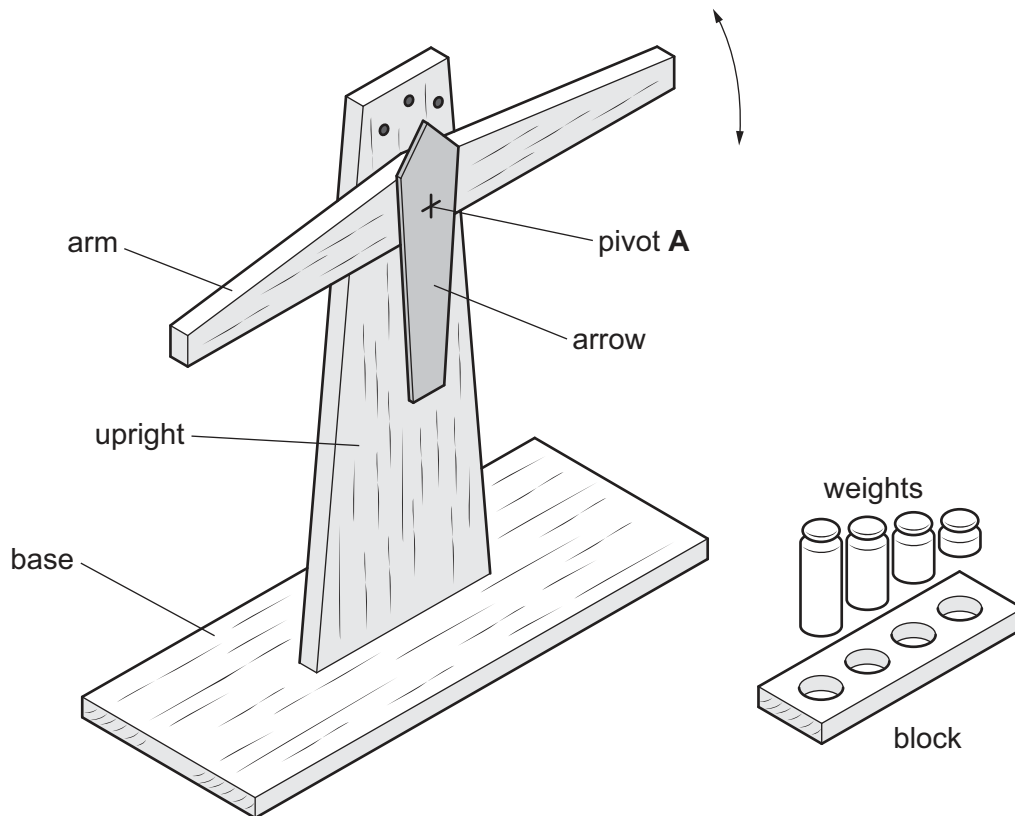

Fig. 11.1
- 11 Fig. 11.1 shows an incomplete design for scales and weights that could be used by children. A parts list gives details of the materials used and their sizes.
- (iii) Use sketches and notes to show how the arm, with the arrow attached, could be joined to the upright at pivot **A** and allowed to move as shown in Fig. 11.1.